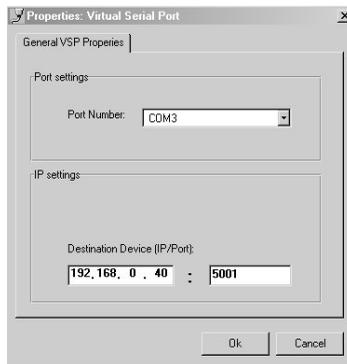

Figure 11: The Virtual Serial Port Properties Window
2. Press the **Add VSP** button to add a serial port and type the IP settings according to the IP address and local port of your **VP-311DVI** (see Figure 11).